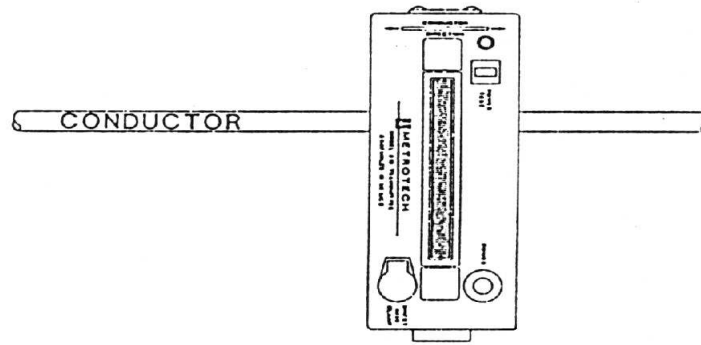

Figure 8, Position for Inductive Coupling (Indirect Method)
- Find a place over the target conductor that is at least 100 feet away from where you will be searching with the Receiver. If the transmitter is very close to the Receiver, more signals may reach the Receiver by air coupling than by coupling through the conductor. Position the transmitter over the buried cable, making sure the conductor direction arrow is parallel to the cable as seen in Figure 8.